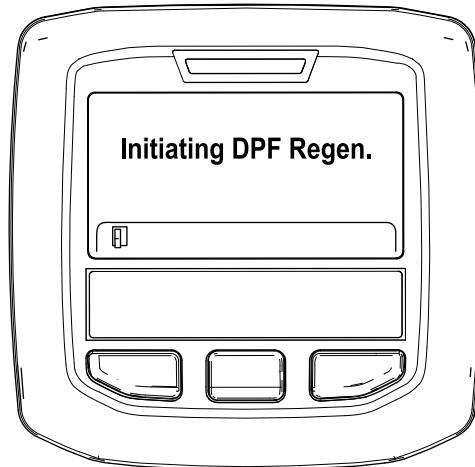

Figure 31
A. The "Initiating DPF Regen." message displays (Figure 31).